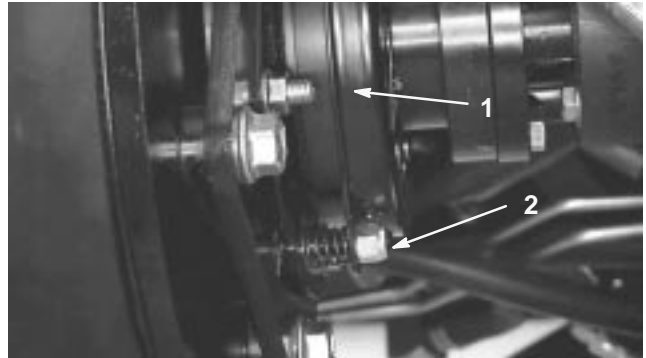

Figure 62
2. Check adjustment by inserting feeler gauge through slots next to flange studs (Fig. 62).